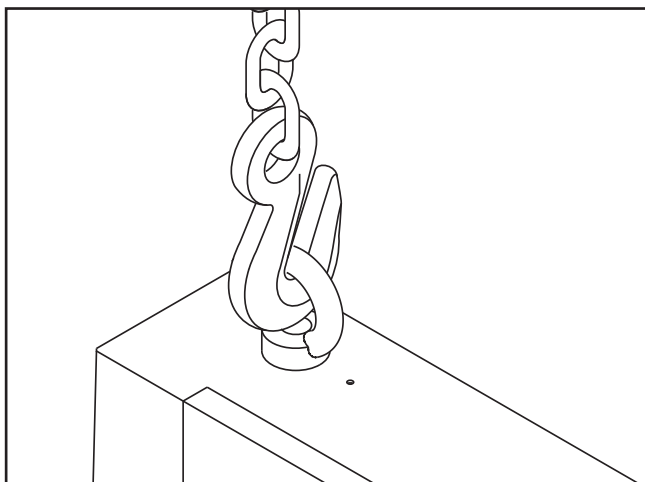

Figure 11. Lifting the bandsaw.
3. Install the eye bolt shown in **Figure 11** if it is not already installed (make sure it is threaded all the way in), then place the lifting hook through the eye bolt and lift slowly with a forklift.